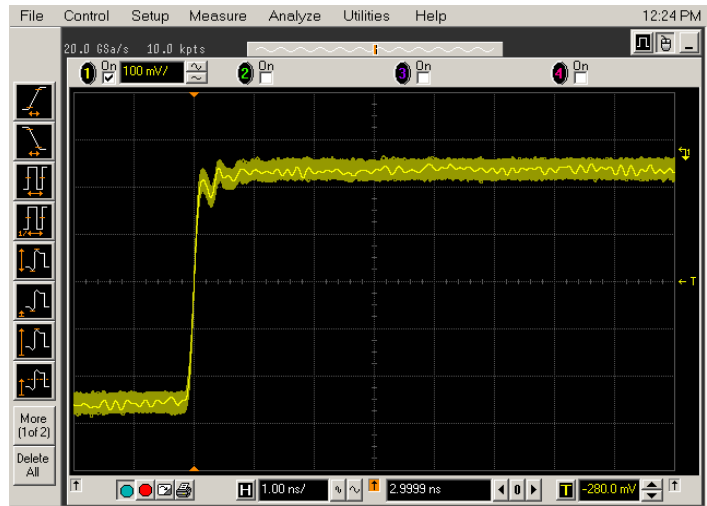

Figure 67 Good Connection
- 4 Set the horizontal position to approximately 3 ns. You should see a waveform similar to that in Figure 67.